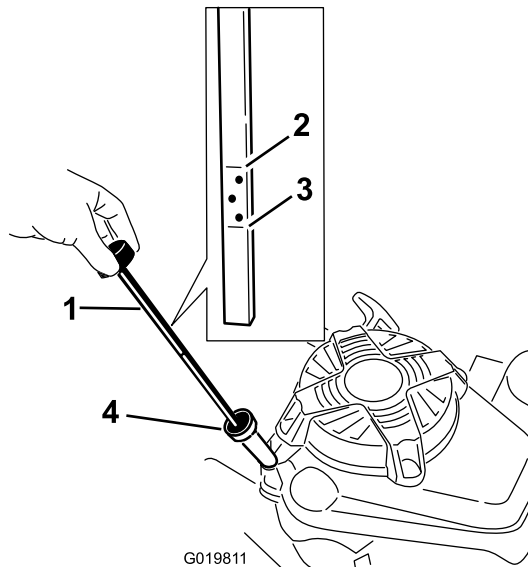

Figure 10
Before each use, ensure that the oil level is between the **Add** and **Full** marks on the dipstick (Figure 10).
2. Clean around the dipstick (Figure 10).
6. Read the oil level on the dipstick (Figure 10).